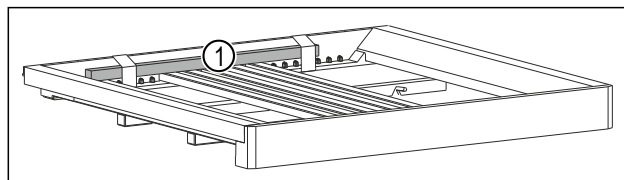

Fig. 3
- ▶ Remove the wooden stick Fig. 3 (1).